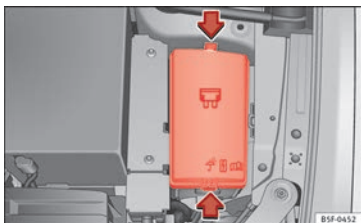

Fig. 102 In the engine compartment: fuse box cover.
- Press the locking tabs to release the fuse box cover »» **Fig. 102**.